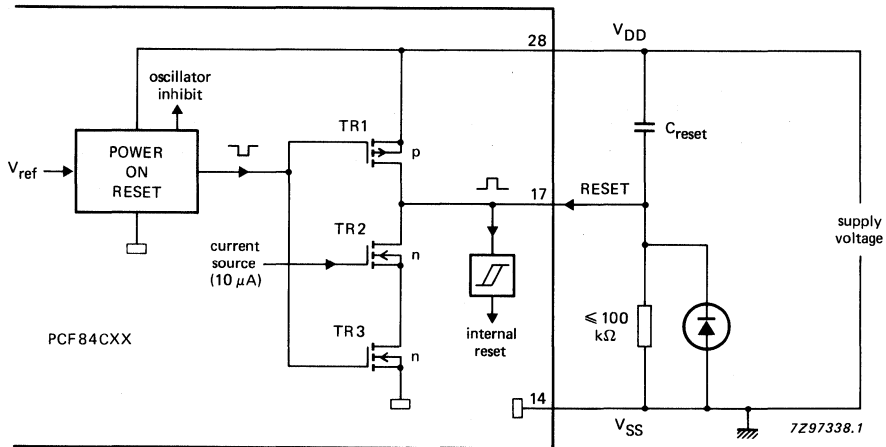

Fig. 25 Stretched power-on-reset with external components.
2. If  $V_{DD}$  has a slow rise time then the RESET signal should be stretched by an external RC circuit (see Fig. 25 and 26). In the event of a short drop in the supply voltage, the diode path rapidly discharges the capacitor to ensure a reliable power-on reset. To ensure a correct reset, the RESET signal should reach at least 70% of the final value of  $V_{DD}$ . Given that the RESET voltage and  $V_{DD}$  rise exponentially, the above requirement is satisfied when the time constant  $\tau$  of the RESET pulse is  $> 8$  times the time constant of  $V_{DD}$ . If  $V_{DD}$  rises linearly, then a RESET time constant  $> 2$  times the rise time of  $V_{DD}$  is required.